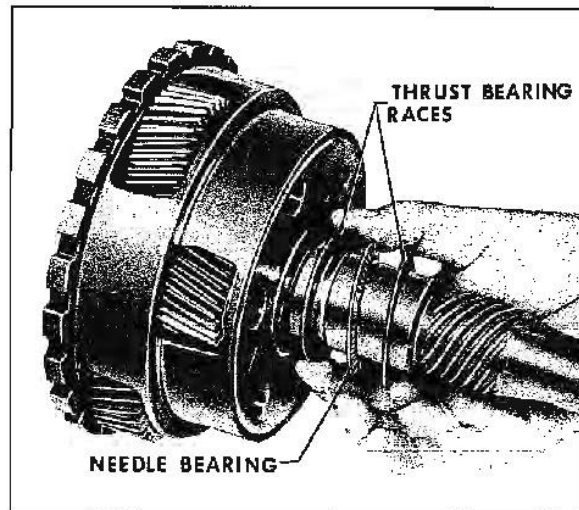

Fig. 7B-60 Removing Planet Carrier Thrust Bearing and Races
7. With transmission in horizontal position, apply compressed air to reverse piston apply port to force out reverse piston (Fig. 7B-63).